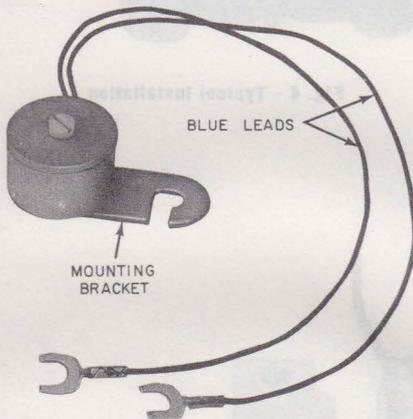

Fig. 1—KS-20419L1 Buzzer
2.16 The miniature KS-20419L1 buzzer (Fig. 1) is 3/4-inch in diameter, 1/2-inch thick, and is equipped with two spade-tipped leads 7-1/2 inches long.